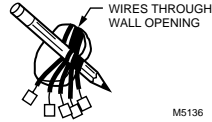

Fig. 3. Wrapping wires around pencil.
- ❑ Disconnect wires from old thermostat or subbase. As you disconnect each wire, tape the end and label it with the letter of the terminal designation. If there are only two wires, they do not require labeling. Wrap wires around a pencil to keep them from falling back into the wall as shown in Fig. 3.